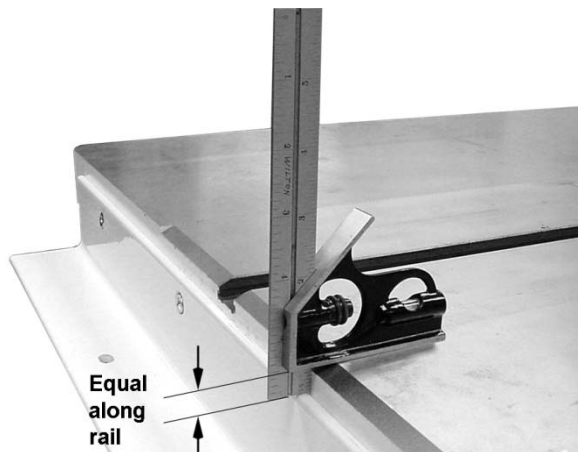

Figure 3
1. Place an adjustable square on the table as shown in Figure 3.